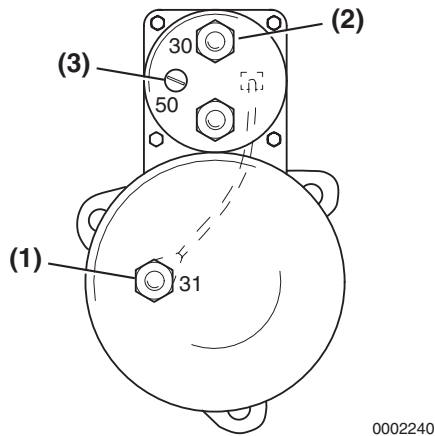

Figure 10-2
2. Disconnect ground cable (**Figure 10-2, (1)**) if used.
3. Disconnect positive (+) cable (**Figure 10-2, (2)**) and primary wire (**Figure 10-2, (3)**).
- Primary wire (**Figure 10-2, (3)**). Tighten to 2 - 3 N·m (18 - 27 in.-lb).
- Battery positive (+) (**Figure 10-2, (2)**). Tighten to 24 - 32 N·m (17 - 24 ft-lb).
- Ground cable (**Figure 10-2, (3)**). Tighten to 16 - 20 N·m (142 - 177 in.-lb).